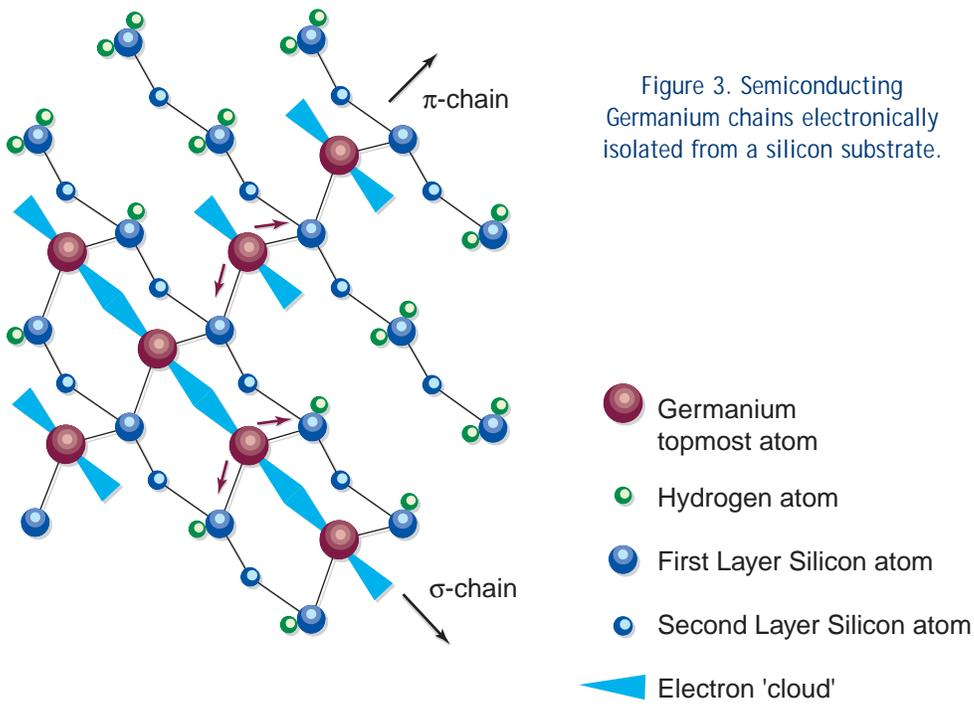

Figure 3. Semiconducting Germanium chains electronically isolated from a silicon substrate.
In order for multiple autonomous systems to know about each other's multicast sources, a helper protocol is required. Today, this protocol is Multicast Source Discovery Protocol (MSDP). MSDP floods information about multicast sources among all the Rendezvous Points (RPs) in multiple domains, allowing receivers in one autonomous system to receive data from a different autonomous system (see Figure 3).
Figure 3. With inter-domain multicast routing, all routers with external MBGP connectivity have parallel MSDP connectivity. All routers with external MBGP and MSDP connectivity have meshed internal MBGP and MSDP connectivity. In addition, the RP must be part of the MSDP mesh. Each network represents an Autonomous System (AS). Moreover, the red arrows depict links with MBGP and MSDP connectivity.
a silicon substrate, germanium atoms can be attached with two chemical bonds as shown in Figure 3 – on page 12. This structure is a semiconducting chain on an insulating substrate. Nearby chemical bonds on the substrate are saturated with hydrogen atoms so that they are electronically inactive. This has resulted in the development of an essential component for an FET on the atomic scale.